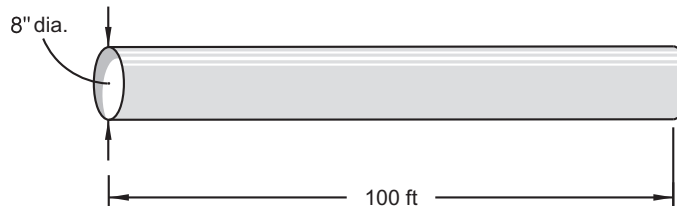

FIG. 30.5 Volume of 100 ft, 8" diameter feed line.
- Mass in line is 2170 pounds (see Fig. 30.5)